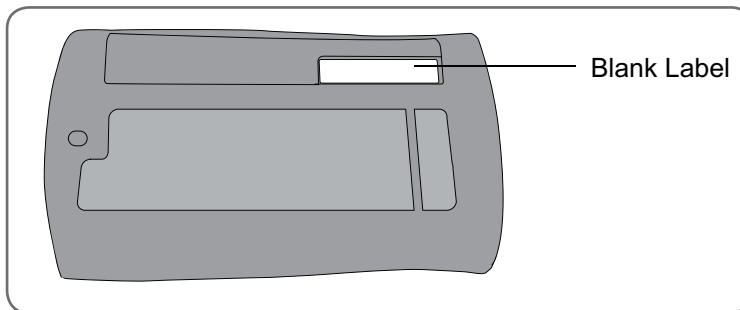

Figure 9-3: Label on the Control Unit for the System ID Number.
7. Once the Control Unit is registered, locate the System ID Number on the NESS L300 carrying case (for example, A334). Write the number on the blank label on the back of the Control Unit. See Figure 9-3. This ID number identifies which NESS L300 system the new Control Unit is registered to.